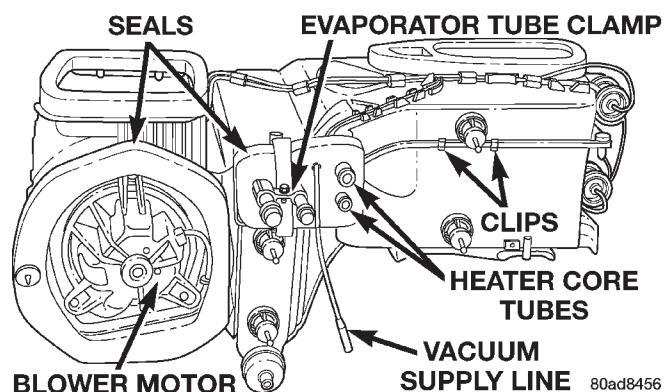

Fig. 49 Heater-A/C Housing Disassembly
(1) Remove the heater-A/C housing from the vehicle and place it on a work bench.
(2) Unplug the vacuum harness connectors from the floor door actuator and, if the unit is so equipped, the recirculation air door actuator.
(3) Disengage the vacuum harness from any routing clips located on the lower half of the heater-A/C housing.
(4) Disengage the heater-A/C wire harness connector and the blower motor relay wire harness connector push-in retainers from their mounting holes on the heater-A/C housing.
(5) Remove the blower motor and blower wheel unit from the heater-A/C housing. See Blower Motor in this group for the procedures.
(6) Carefully remove the foam seal from the flange around the blower motor opening in the heater-A/C housing. If the seal is deformed or damaged, it must be replaced.
(7) Pull the vacuum supply line and connector through the foam seal on the heater core and evaporator coil tube mounting flange of the heater-A/C housing (Fig. 49).